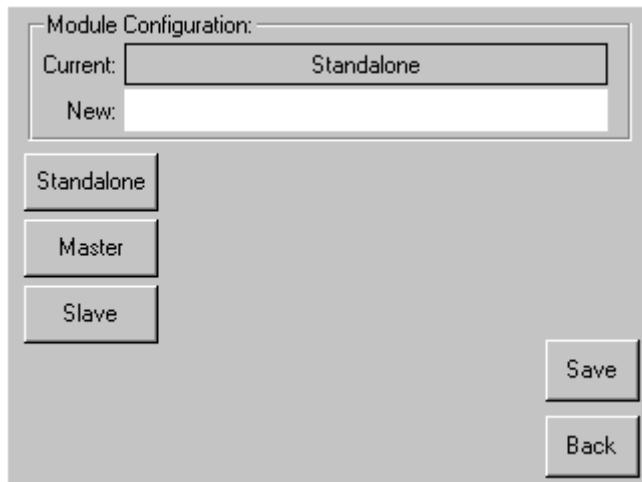

Figure 28: Module Configuration screen
5. Touch the button next to the **Module Configuration** menu option and then touch the **Master** button (see Figure 28).
5. Touch the button next to the **Module Configuration** menu option and then touch the **Slave** button (see Figure 28 on page 52).